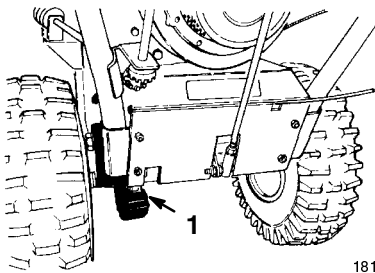

Figure 35
2. Lightly lubricate the drive chain with a chain lubricant (Fig. 35).